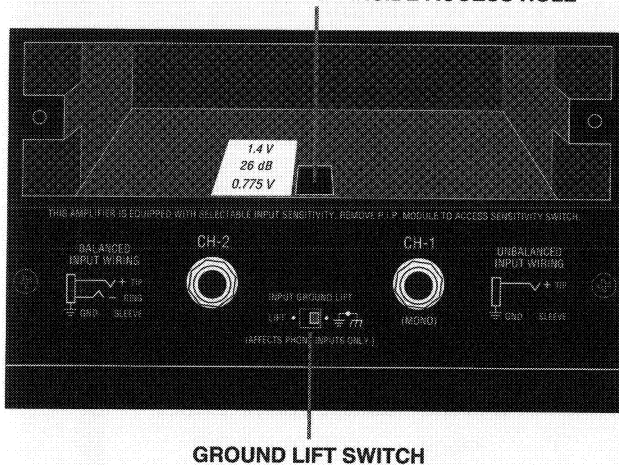

Fig. 4.4 Input Sensitivity and Ground Lift Switches
3. Locate the sensitivity switch access hole inside the chassis opening as shown in Figure 4.4. It is located just above the phone jack inputs.